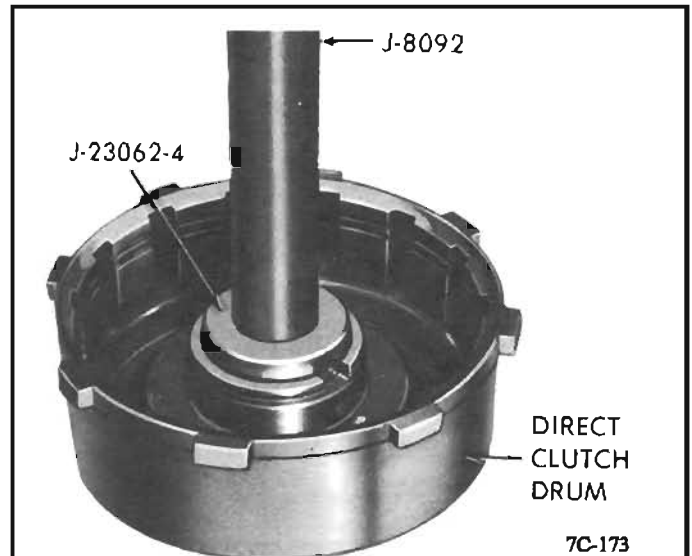

Figure 135 Direct Clutch Bushing Installation
1. Install direct clutch bushing using Tool J-23062-04, Drive Handle J-8092 and remove the bushing. *See Figure 135.*